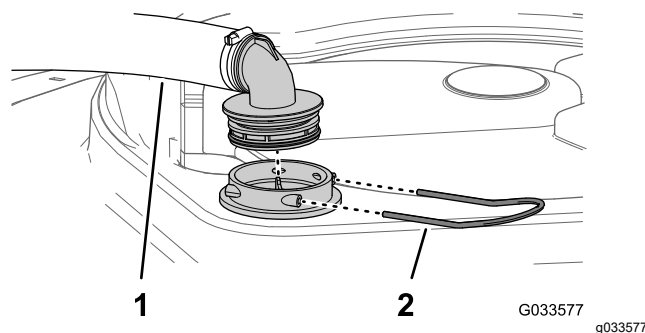

Figure 27
- At the top of the sprayer tank, remove the retainer that secures the hose fitting attached to the large hose from the filter housing (Figure 27).
- Remove the hose and hose fitting from the filter housing (Figure 27).